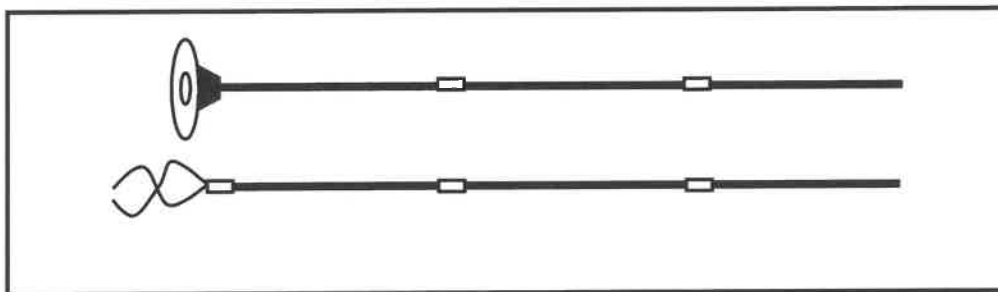

FIGURE 4.3
- 4.3 FIGURE 4.3 below shows plumbing tools.